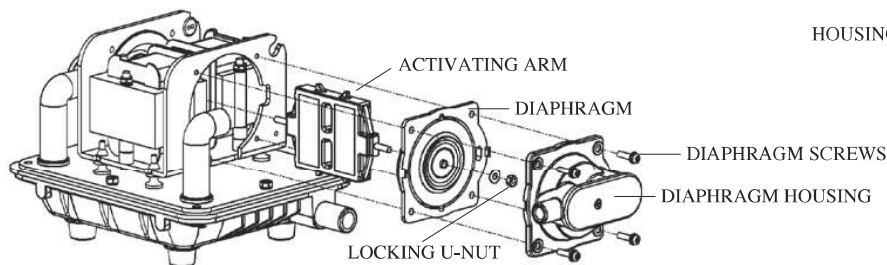

Figure 3
- B. Unscrew and remove the four diaphragm screws and remove the diaphragm housing. (As shown in figure 3)